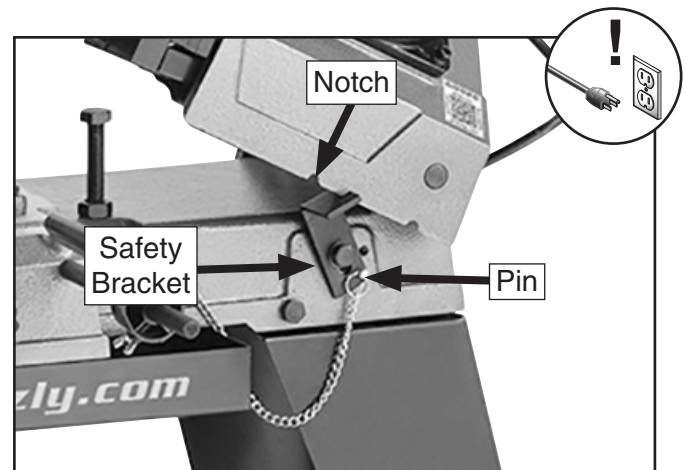

Figure 34. Components for securing raised headstock.
2. Raise headstock, position safety bracket in one of the notches shown in **Figure 34**, then secure in place with locking pin.